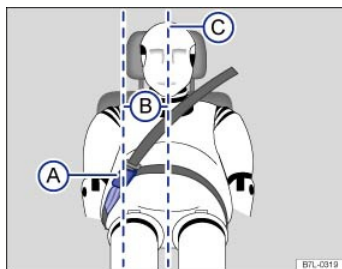

Fig. 36 Positioning of the safety belt extender.
Key to ⇒ **Fig. 36** :
- Never use a safety belt extender if the distance (B) between the front edge of the safety belt extender buckle (A) and the centerline of the person using the safety belt extender ⇒ **Fig. 36ⓐ** is less than 6 inches (15 cm).